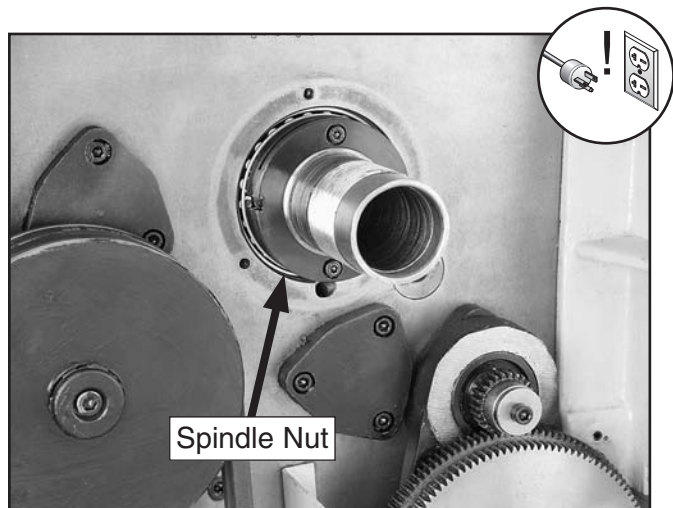

Figure 95. Spindle nut exposed.
5. Remove the three cap screws securing the end cap, then, taking care not to damage the gasket, remove the end cap from the spindle to expose the spindle nut, as shown in **Figure 95**.